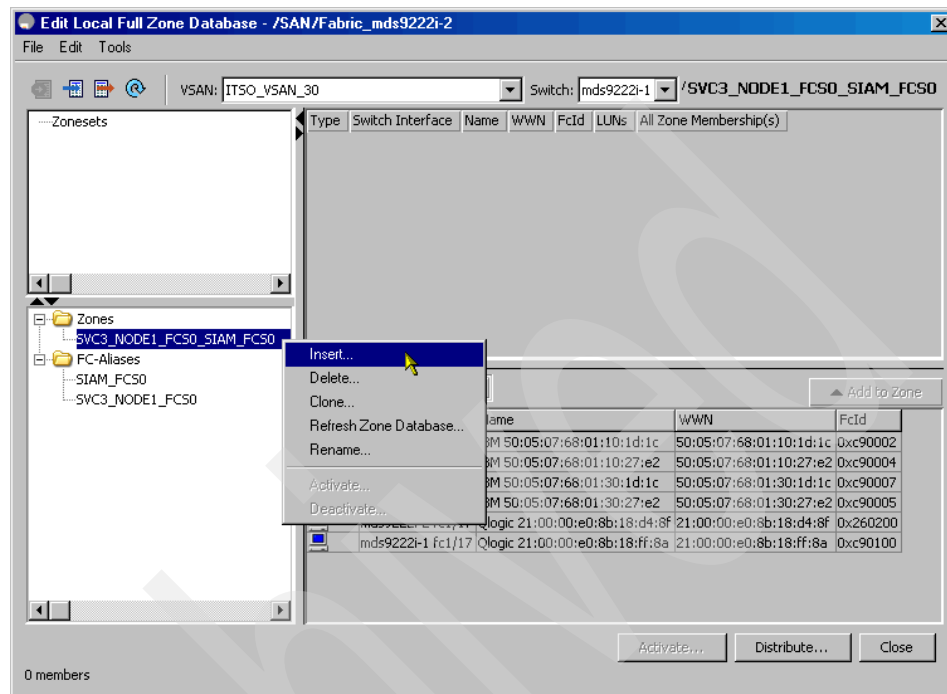

Figure 6-59 Select a zone to be modified
3. Right-click the created zone and select **Insert** to define members of the zone, as shown in Figure 6-59.